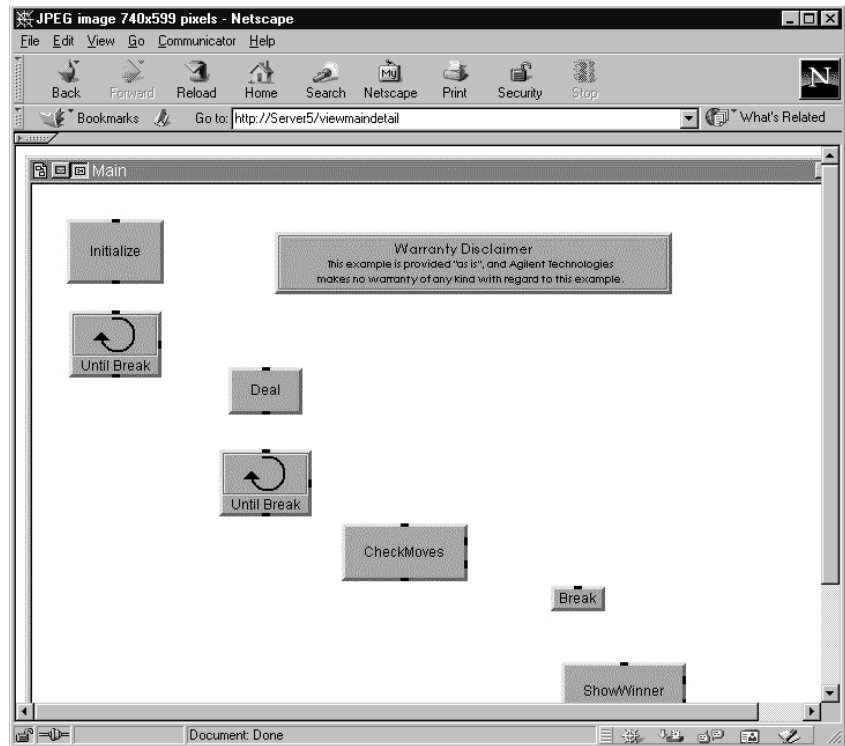

Figure 273 Viewing the Main Solitaire.vee Program in the Browser
- 4 The remote user decides to view the entire VEE program first. In the VEE Web Server Home Page, he or she clicks **Main Detail** ⇒ **View**. The browser displays the view shown in Figure 273.
Figure 273 displays the Main program in VEE.